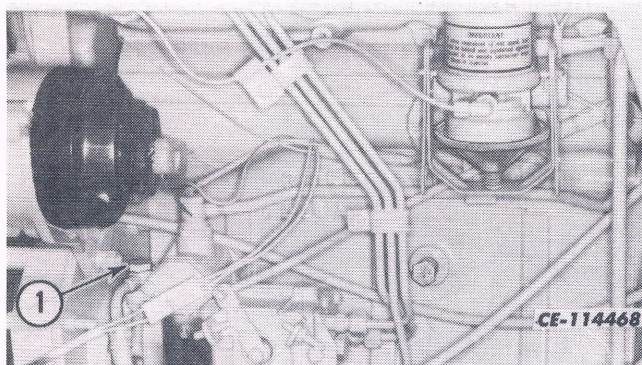

Fig. 31. Fuel Inlet Screw
3. Crack open the fuel inlet screw (1, Fig. 31) on the fuel injection pump (2) until the outflowing fuel is free of air. Retighten the screw.